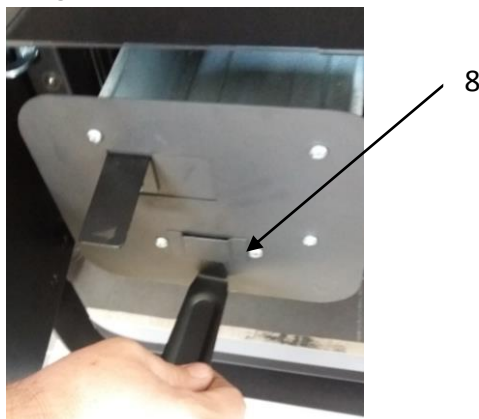

FIG.2
We take out the ashtray with a special key (by raising up), removal and returning of the ashtray through the ashtray bracket as shown in figure 2 pos.8.